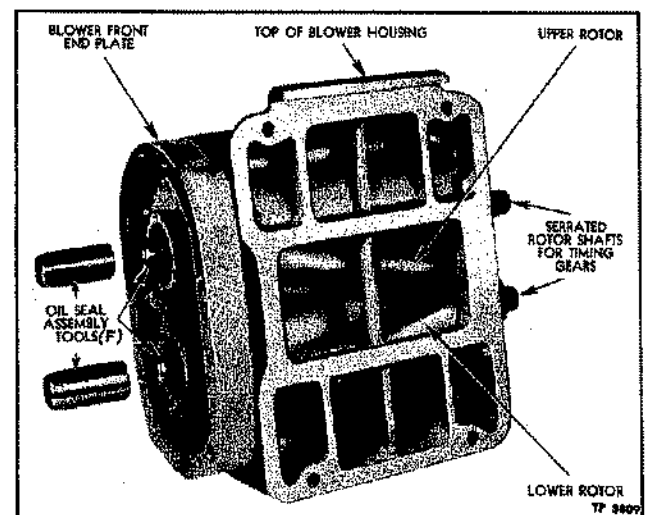

Figure 20—Installing Rotors in Housing, Using
1. Install one oil seal pilot over short end (non-splined) of each rotor shaft and with rotors in mesh and omitted serrations toward top of blower housing, slip rotors into housing. See fig. 20.)